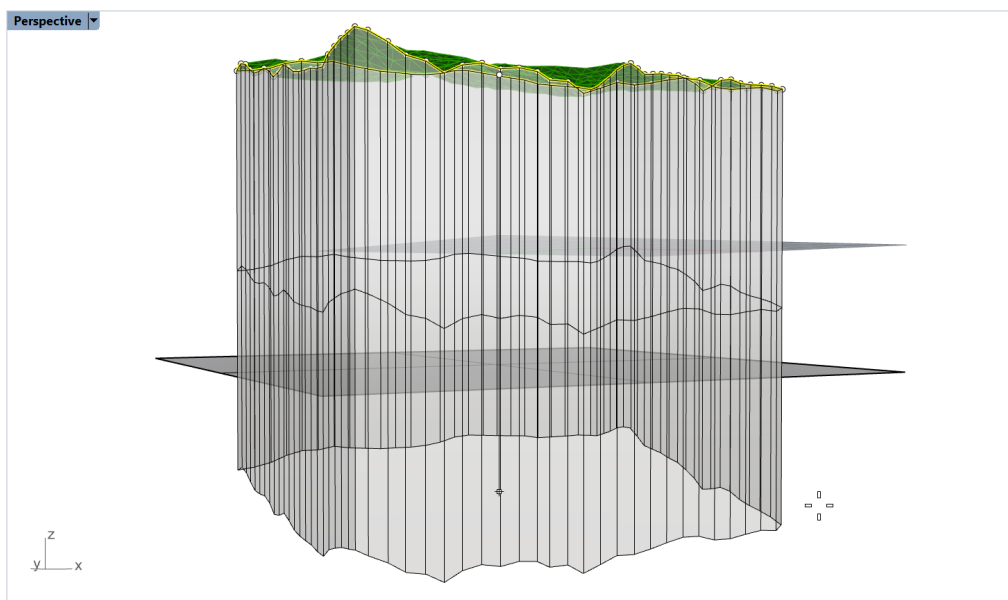

Figure 57: Extrusion of topographic surface border.
20. Select the border curve and extrude it downward using the **\_ExtrudeCrv** command in such a way that all parts of the extrusion go below the plane (Figure 57). This will create a polysurface that intersects the horizontal plane. Delete the duplicated border.